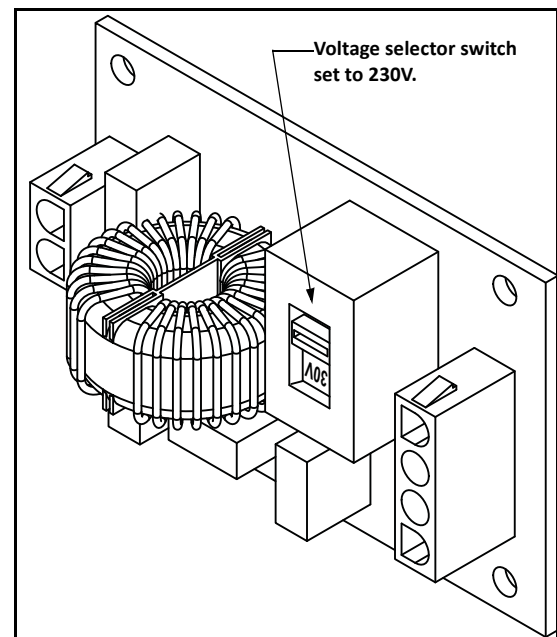

Figure 2-3.
3. Toggle the voltage selector switch from 115V to 230V. Replace the High Voltage cover and secure it. See Figure 2-3.